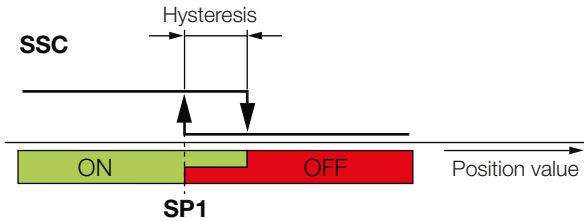

Fig. 6-2: Example for presence detection in single-point mode
- Single-point mode, (Fig. 6-2): Value: 1